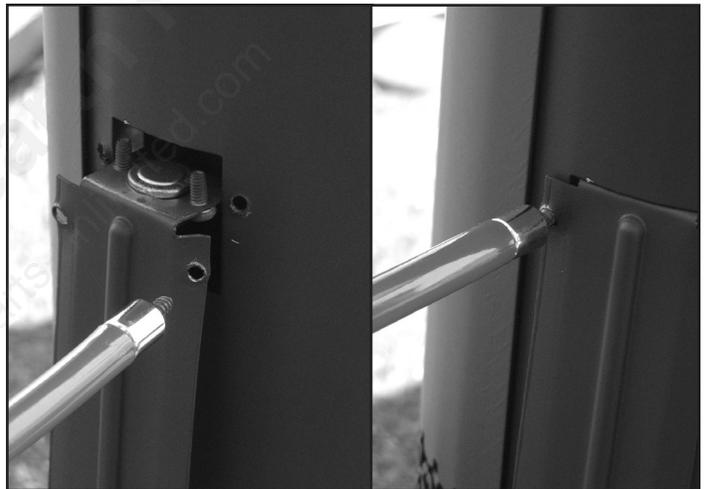

Figure 49: Spill switch installation.
3. Remove the four mounting screws holding the spill switch bracket and remove the bracket (see Figure 49).